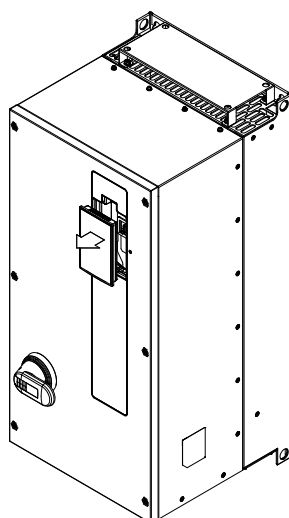

Figure 6-13
- 1) Remove the keypad. (As shown in Figure 6-13)